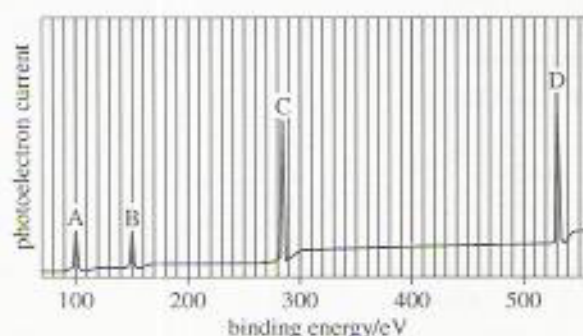

Figure 4.1 The X-ray photoelectron spectrum of a sample of gold (Au) foil.
**Q4.6** Figure 4.1 is the X-ray photoelectron spectrum of a sample of gold (Au) foil. Using the information in Appendix 1 of Block 6, suggest the identity of the elements that emit the photoelectrons giving rise to the four peaks A to D. Select from the key *three* elements that you can identify.